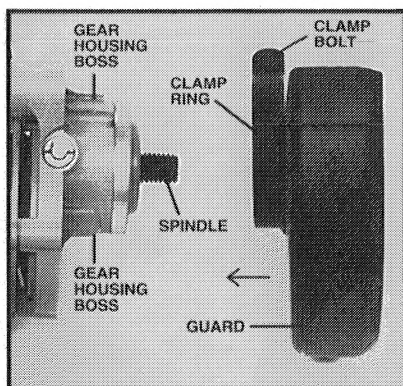
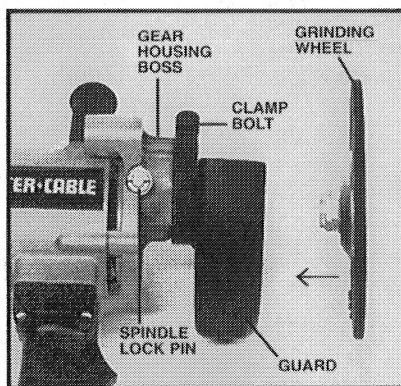

Fig. 6
Fig. 7
3. Slide guard clamp ring onto gear housing (see Fig. 6) until clamp ring seats against gear housing bosses (see Fig. 7).
2. Depress spindle lock pin (see Fig. 7) and hold while rotating grinding wheel clockwise onto spindle (see Fig. 6); tighten wheel firmly with a 1" open-end wrench.